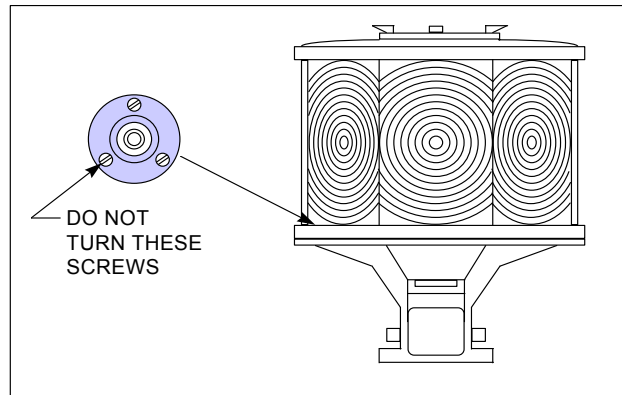

Figure 3-35
- f. Remove the access hatch, rotate the lens cage and recheck the levelness of the beacon. The bubble should stay centered within the circle through an entire rotation of the lens cage, as shown in Figure 3-35. If not, center it the best you can through an entire rotation.